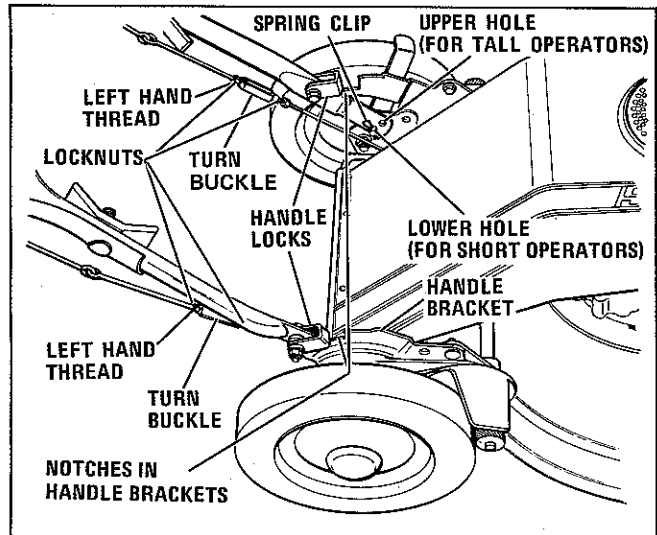

Figure 5
1. Remove the two spring clips holding the handle to the handle bracket. See Fig. 5.
3. Raise the front end of the handle locks and rotate the handle forward until the rear edge of the locks are in line with the notches in the handle bracket. See Fig. 5.
7. Install the spring clips. See Fig. 5.
Remember, for tall operators use the upper holes and for shorter operators, use the lower holes. See Fig. 5.
2. Loosen the locknuts on the turn-buckle on the side of the mower with the slipping roller. Note that the locknut on the top of the turn-buckle has a left hand thread and must be rotated clockwise (viewed from the top) to loosen it. See Fig. 5.